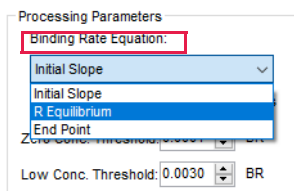

Figure 10-21: Selecting a Binding Rate Equation
1. In the Processing Parameters box, select a binding rate equation (Figure 10-21). This is the curve-fitting equation that models the binding data.